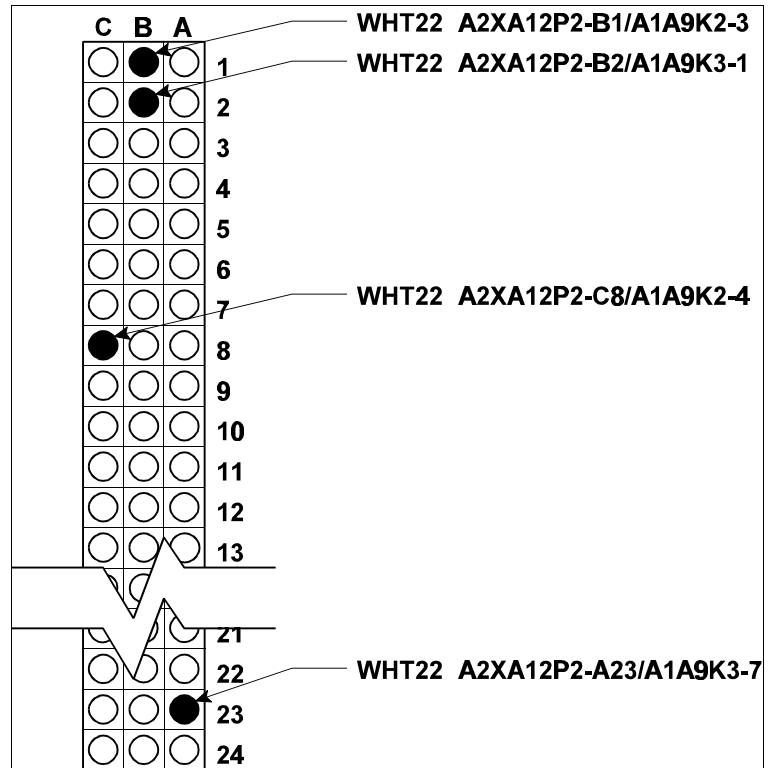

Figure 5 2A1A2XA12P2 Connections
19. Route the four 22-gauge white wires to the VME rack connector 2A1A2XA12P2, and insert them as illustrated in figure 5.